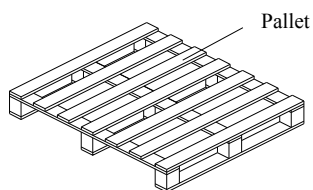

Fig 4
Step 1 Place a pallet specially, spec is:1130mm*1100mm*140mm,as fig4.